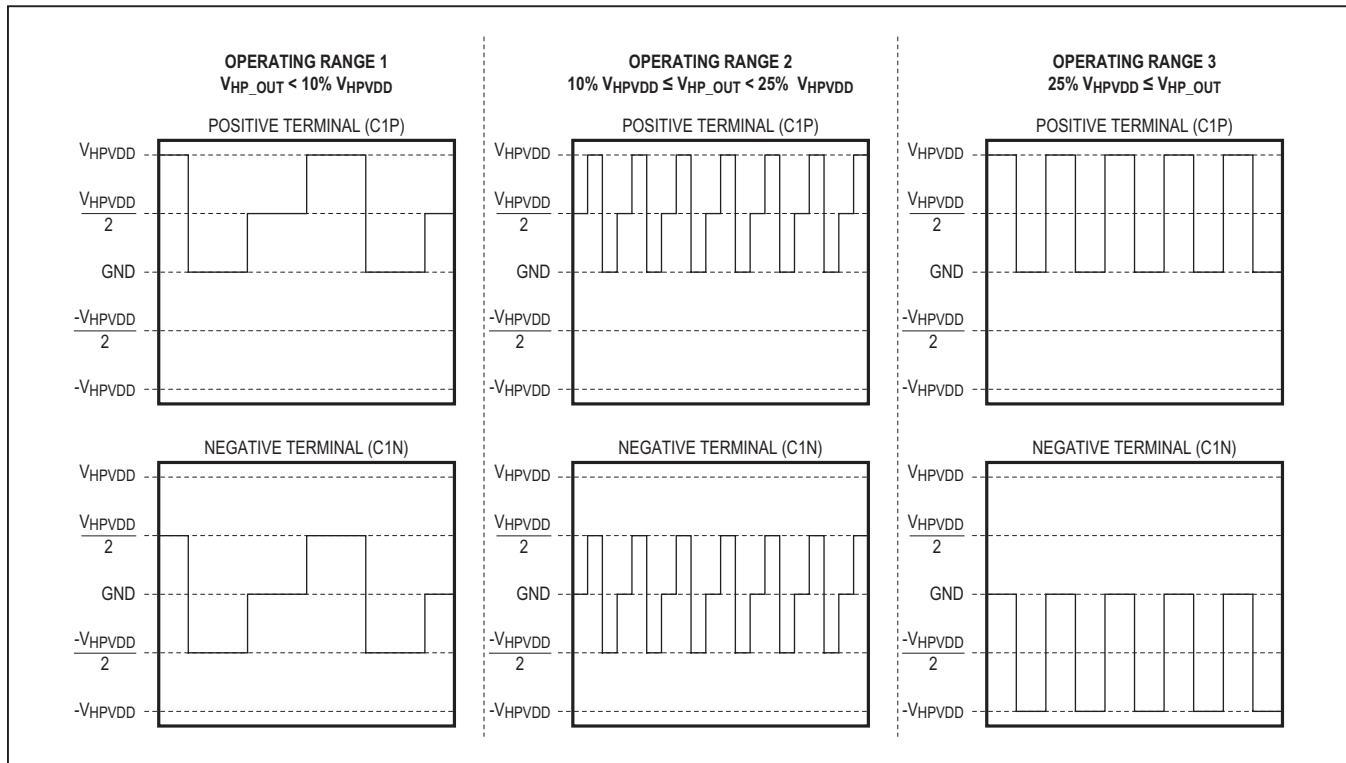

Figure 40. Class H Amplifier Charge Pump Operating Ranges
**Range 1 ( $V_{HP\_OUT} < 10\%$  of  $V_{HPVDD}$ ):** When the output signal level is less than 10% of HPVDD, the output signal swing is low and the power consumption for driving the headphone load is small relative to the charge pump quiescent consumption and switching losses. Therefore, to minimize switching losses, the charge-pump frequency is reduced to its lowest rate (~82kHz) and the bipolar output supply rails are set to half of HPVDD or  $\pm V_{HPVDD}/2$  (Figure 40, Range 1).
quiescent consumption and switching losses. To meet the increased load power requirements, the charge-pump switching frequency increases (~660kHz) while the bipolar output supply rails remain at half of HPVDD or  $\pm V_{HPVDD}/2$  (Figure 40, Range 2).
**Range 3 (25% of  $V_{HPVDD} \leq V_{HP\_OUT}$ ):** When the output signal level exceeds 25% of HPVDD, the output signal swing is much wider. As a result, the charge pump now generates bipolar full HPVDD output supply rails ( $\pm V_{HPVDD}$ ). The switching frequency in this range is slightly lower (~500kHz). However, the increased voltage differential allows the headphone output driver to reach its maximum voltage swing and load driving capability (Figure 40, Range 3).